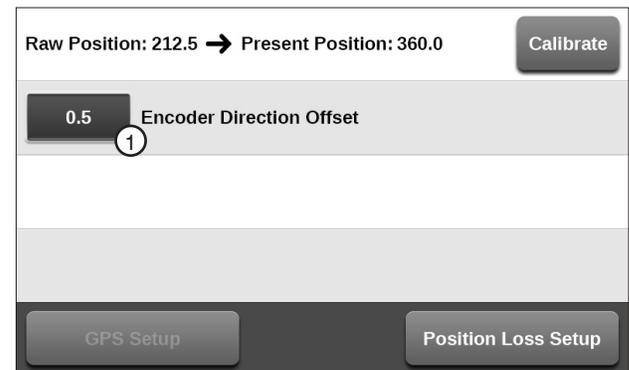

Figure 37-2 Position Screen
- Push **Setup, Constants** and **Position** to view the Position screen and the Encoder Direction Offset field. Refer to Figure 37-2.